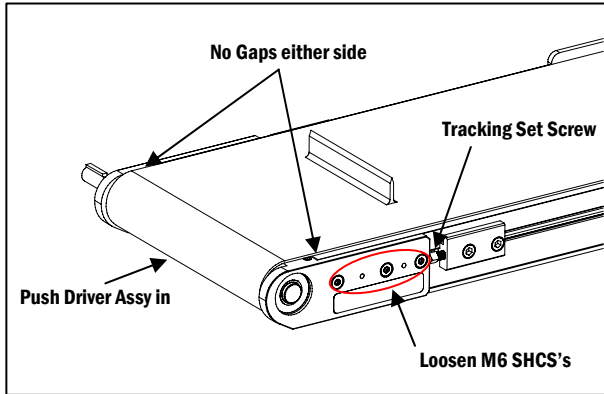

Figure 18
e. Set the initial tension of the conveyor belt (Neutral) by ensuring that the bearing plates seat flush up against the slider bed with no gap. This is accomplished by loosening (do not remove) the six M6 Driver Assembly Screws in the Bearing Blocks (three on each side), about one-half turn. Thread the M6 Square Head Tracking Set Screws into their jacking blocks. Push the driver assembly towards the slider bed until it is flush with it, then re-tighten the M6 Driver Assembly Screws (**Figure 18**).